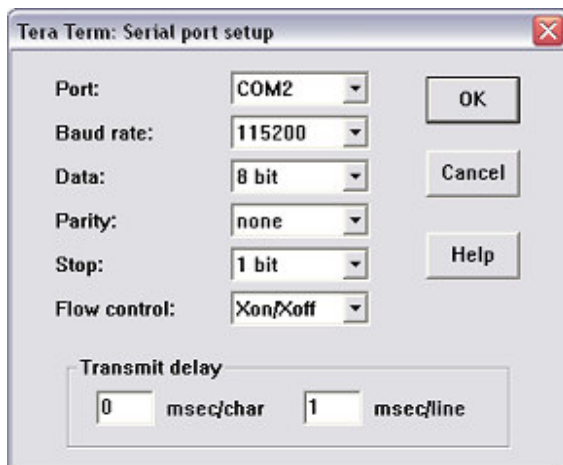

Figure 5.5 Setting for Tera Term
12. Start and set up features of Tera Term as shown in Figure 5.5. (COM port setting depends on your PC setting).